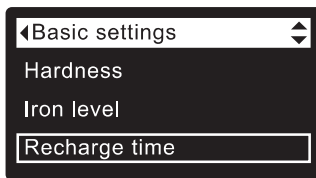

FIG. 102
3. Press the SELECT (O) button to display the Basic settings menu (See Figure 102).
7. Press the SELECT (O) button. The display will go back to the Basic settings menu (Figure 102).